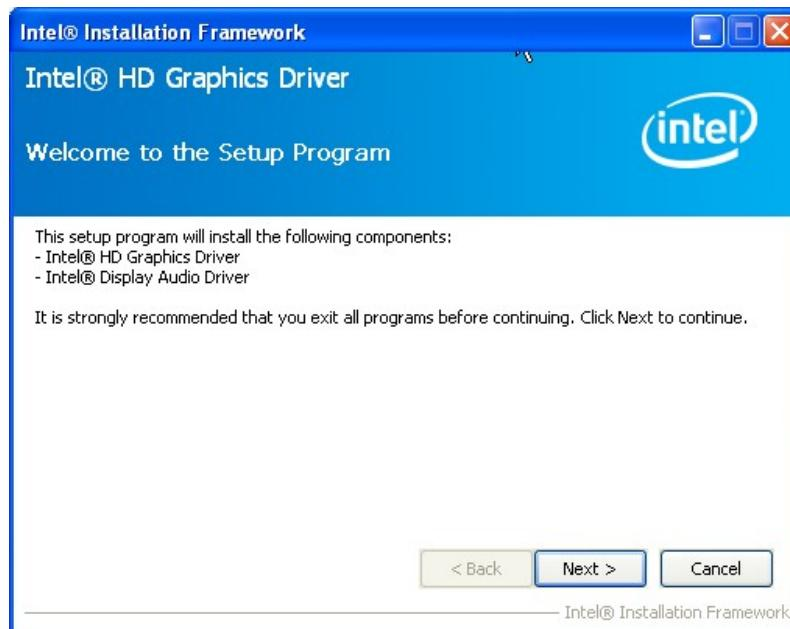

Figure 6-8: Graphics Driver Welcome Screen
Step 4: The **Welcome Screen** in **Figure 6-8** appears. Click **Next** to continue.